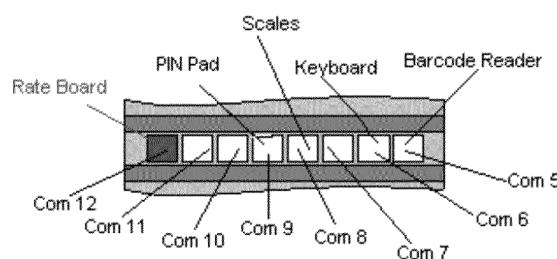

Figure 17
- 2) To connect the Segment 3 cable to the Counter Position, take the segment 3 cable and connect the RJ12 plug to **COM12** on the Specialix card at the rear of the base unit (See figure 17) Ensure that this plug ‘clicks’ home securely.
The keyboard has two connections - the mini-DIN connector is connected to the keyboard socket, and the RJ12 connector is connected to COM6 (2nd socket from the right of the Specialix Card, see figure 17).
The bar code reader has two connections - the mini-DIN connector is connected to the mouse port, and the RJ12 connector is connected to COM5 (1st socket from the right of the Specialix Card, see figure 17).
If present, these are connected to COM8 (4th socket from the right of the Specialix Card, see figure 17).
The PIN Pad has three connections. The RJ12 connector is connected to COM9 (5th socket from the right of the Specialix Card, see figure 17). The plug end of the 'Y' shaped power lead is connected to the daisy-chain PSU output, and the socket end connects to the mains lead trailing from the touchscreen monitor.
If present, a cable (the Segment 3 cable) will be connected to COM12 on the Specialix Card (see figure 17).